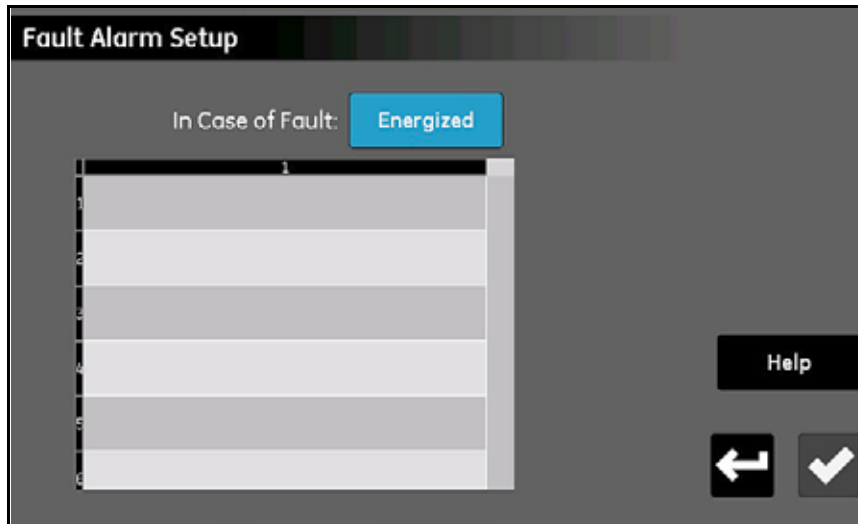

Figure 35: The Fault Alarm Setup Screen
The *Fault Alarm Setup* menu (see *Figure 35* below) allows you to specify how the moisture.IQ dedicated fault alarm relay responds to a fault condition and it lists the source of any current fault conditions.
- Tap the In Case of Fault button to toggle between the Energized and DeEnergized options. This selection determines whether the relay is Energized or DeEnergized (fail-safe operation) when a fault condition is detected. The source of a fault is displayed in the fault list in *Figure 35* above.